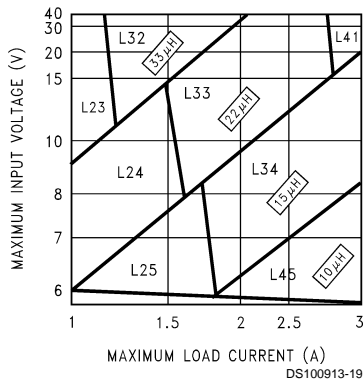
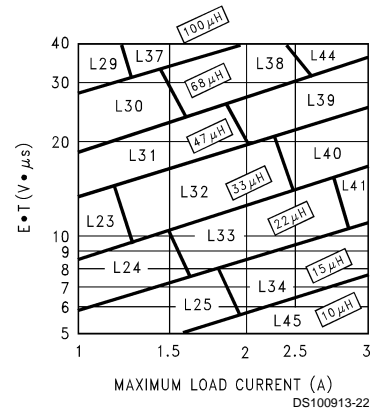

FIGURE 3. LM2673-3.3
FIGURE 6. LM2673-ADJ
Step 3: Determine the inductor required by using one of the four nomographs, *Figure 3* through *Figure 6*. Table 1 provides a specific manufacturer and part number for the inductor.
Step 5: Determine an input capacitor from Table 4 for fixed output voltage applications. Use Table 2 to find the specific capacitor type. For adjustable output circuits select a capacitor from Table 2 with a sufficient working voltage (WV) rating greater than $V_{in\ max}$, and an rms current rating greater than one-half the maximum load current (2 or more capacitors in parallel may be required).
Step 3: Use the nomograph for the 3.3V device, *Figure 3*. The intersection of the 16V horizontal line ($V_{in\ max}$) and the 2.5A vertical line ($I_{load\ max}$) indicates that L33, a 22 μ H inductor, is required.
Step 3: To use the nomograph for the adjustable device, *Figure 6*, requires a calculation of the inductor Volt•microsecond constant ($E \cdot T$ expressed in $V \cdot \mu\text{S}$) from the following formula:
Using *Figure 6*, the intersection of 27 $V \cdot \mu\text{S}$ horizontally and the 2A vertical line (I_{load} max) indicates that L38, a 68 μH inductor, should be used.
Important Note: When using the adjustable device in low voltage applications (less than 3V output), if the nomograph, *Figure 6*, selects an inductance of 22 μH or less, Table 6 does not provide an output capacitor solution. With these conditions the number of output capacitors required for stable operation becomes impractical. It is recommended to use either a 33 μH or 47 μH inductor and the output capacitors from Table 6.